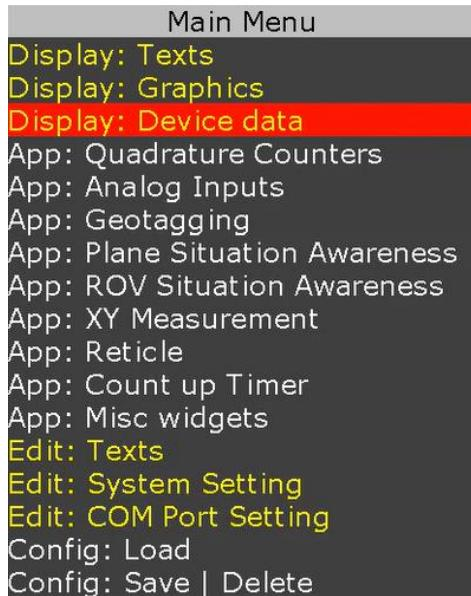
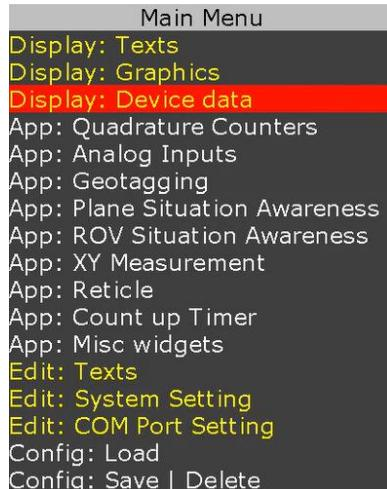
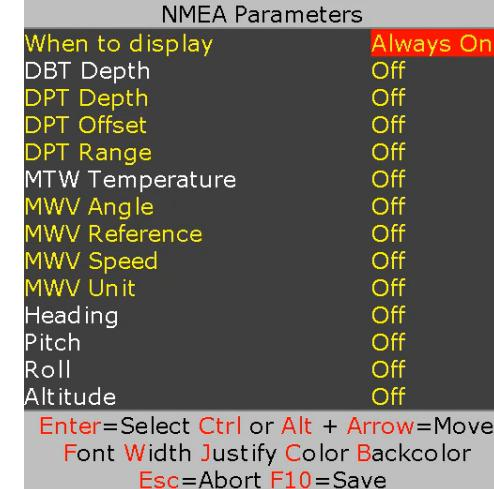

Figure 20
Figure 23
Figure 25
To customize the sample file to meet your needs, follow Figure 20 - Figure 22.
- For above messages, just configure COM port and PROTEUS is ready to receive messages & manage your visual data. Follow Figure 23-Figure 25 and Figure 20 - Figure 22 to display NMEA parameters.